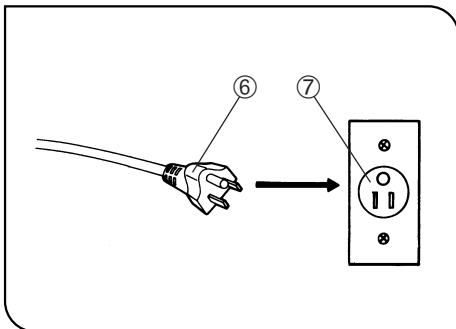

Fig. 17
3. Connect the power cord's plug ⑥ to a wall power outlet ⑦. (Fig. 17)